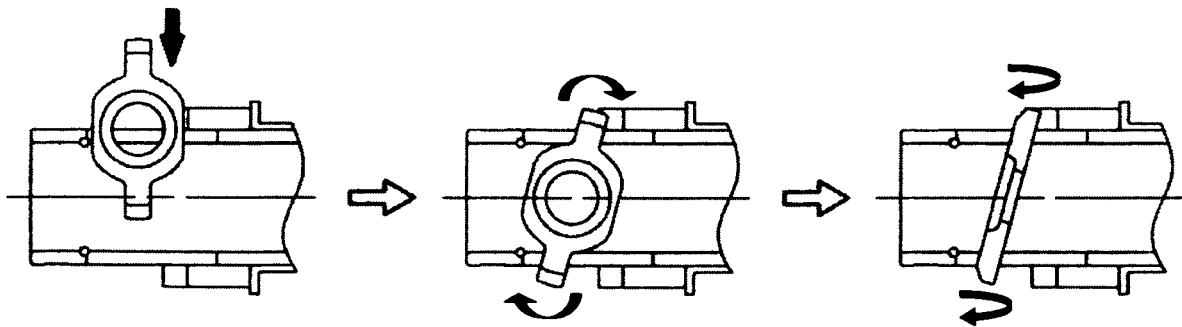

Fig. 25
Put the Slide Ring [30] in the Cylinder [36] through the slotted hole. Tilt the Slide Ring [30] slightly to the axial direction of the Cylinder [36] and turn the Slide Ring [30] on its protrusion by 90°. (Fig. 25) Be careful not to deviate the protrusion of the Slide Ring [30] from the groove of Slide Sleeve (B) [33] during mounting.